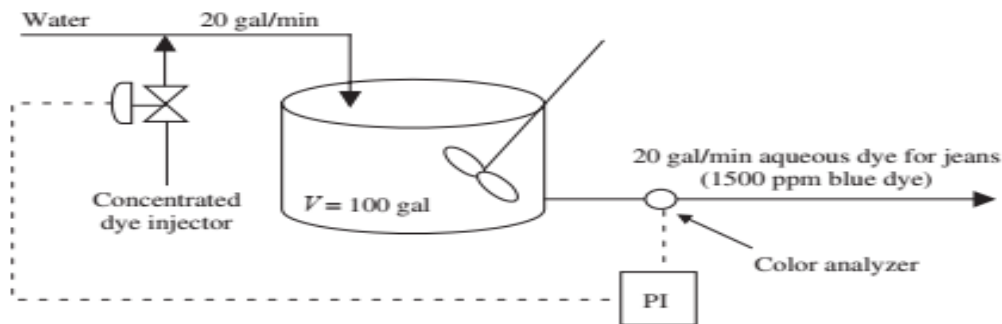

FIGURE P9-7
- 9.7. Dye for our new line of blue jeans is being blended in a mixing tank. The desired color of blue is produced using a concentration of 1500 ppm blue dye, with a minimum acceptable concentration of 1400 ppm. At 9 A.M. today the dye injector plugged, and the dye flow was interrupted for 10 min, until we realized the problem and unclogged the nozzle. see Fig. P9-7.